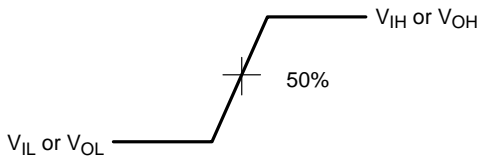

Figure 16. Single-Ended Input/Output 50% Point
**Single-Ended 50% Points** – Single-ended 50% points are used as a measurement point for single-ended input and output signals. A 50% point is the single-ended signal level which lies halfway between the HIGH and LOW input/output levels as shown in Figure 16.